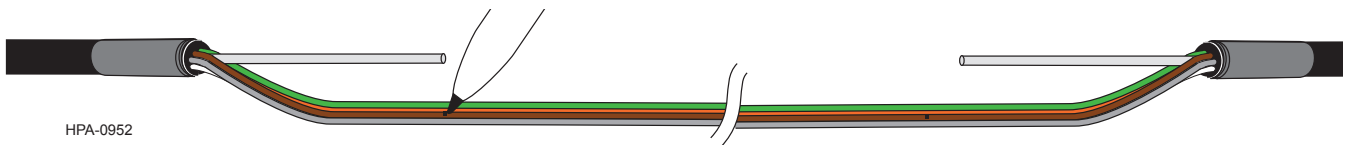

Figure 19
**Step 2:** Use a permanent marking pen to mark the tube(s) with both start and end points to indicate the length of buffer tube to be opened (Figure 19). The length of opening is dependent on the installation, tray requirements, and the available fibre needed for splicing and routing.